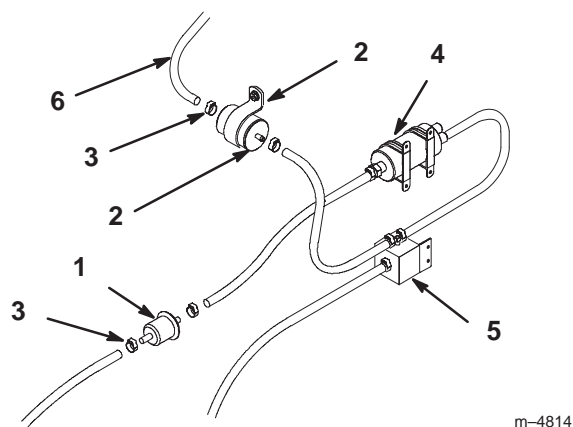

Figure 31
3. Remove clamps with special pliers (Fig. 31).
4. Remove the filter from the fuel lines (Fig. 31).
5. Install a new filter and hose clamps close to the filter (Fig. 31).
4. Remove clamps with special pliers (Fig. 31).
5. Remove the filter from the fuel lines (Fig. 31).
6. Remove high pressure fuel filter from R-clamp (Fig. 31).
8. Install a new filter and hose clamps close to the filter (Fig. 31).